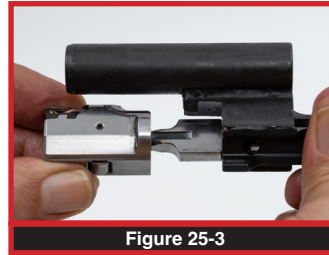

Figure 25-3
14. Install the bolt head with the extractor upwards (Figure 25-3) onto the locking piece.
15. Turn the bolt head counter clockwise until the assembly snaps into place in its correct orientation (Figure 25-3 & 25-4).